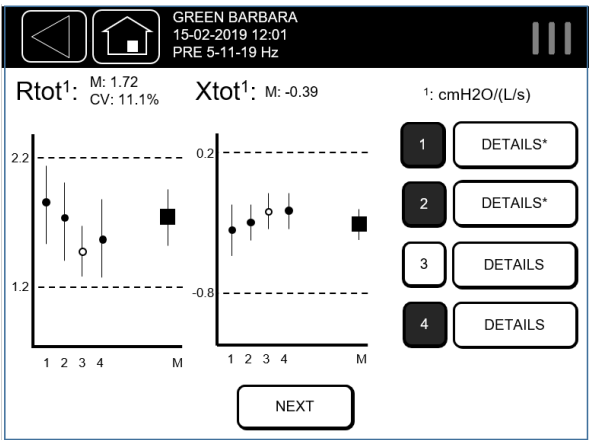
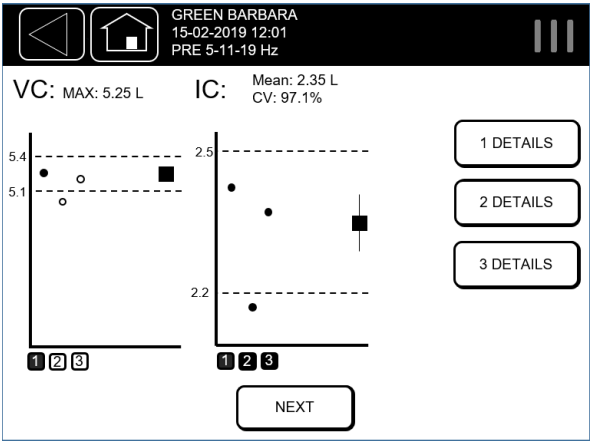
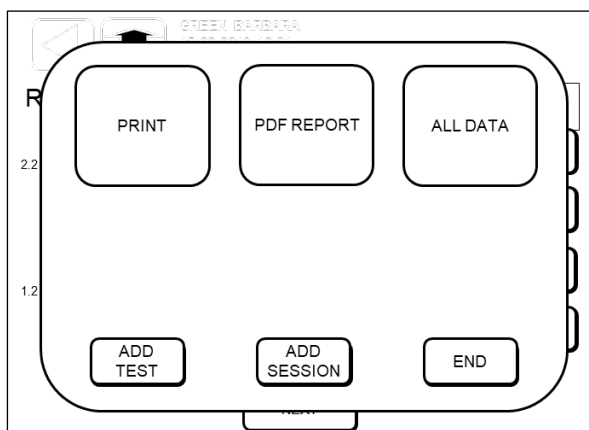

Figure 51 - FOT results for a test session
Figure 52 - Slow Spirometry results for a test session
Figure 53 - Print or export results
The results of a test session displayed on screen include both a summary of FOT parameters measured during the session (Figure 51) and one of the slow spirometry parameters, if measured (Figure 52).
The example of Figure 51 shows results of a FOT test session with four single tests. The top side of the screen reports the mean (M) value and the *inter-test* coefficient of variation (CV) of R_{tot} and the mean of X_{tot} calculated from the selected tests of the session. The mean values of R_{tot} and X_{tot} correspond to the full squares reported in the graphs in the lower part of the screen. The single tests selected for the computation of the mean and CV are displayed as full circles in the same graph, while their error bars represent their *within-test* standard deviation. Dotted lines in each graph represent the *inter-test* variability of the measurements and has been defined as the greatest between $0.5 \text{ cmH}_2\text{O} \cdot \text{s} \cdot \text{L}^{-1}$ and 15% of the mean R_{tot} (or X_{tot}).
If you want to review the results of a single test press the button DETAILS. For further information see section *Results of a single test*. Single tests that include both FOT and slow spirometry measurements are marked with an asterisk ‘*’ placed inside the DETAILS button (Figure 51).
The three most reproducible tests are automatically selected (i.e. highlighted in blue in the results screen of Figure 51).
The example of Figure 52 shows results of a slow spirometry test session with three slow spirometry maneuvers. The top side of the screen reports the selected value of Slow Vital Capacity (VC) and the mean (M) value and *inter-test* coefficient of variation (CV) of Inspiratory Capacity (IC), calculated from the selected tests of the session. The VC and the mean value of IC correspond to the full squares reported in the graphs in the lower part of the screen. The single tests selected for the computation of these values are displayed as full circles in the same graphs. Dotted lines in each graph are drawn at ± 0.15 L from the selected VC or from the mean IC or ± 0.10 L if the measured parameter is below 1 L..
By default, the highest measured VC volume is selected and highlighted among those performed in a test session (Figure 53). For the IC, the three most reproducible tests are automatically selected (i.e. highlighted in blue in the results screen of Figure 52). You can
- Select *SAVE* to save the test onto the internal memory of the device. If you decide to save the test, the next screen will allow you to print the report using the postscript USB printer connected to the device, export the report of the test in a PDF format, export the whole data (*ALL DATA*), *ADD* a new *TEST* to the existing test session (if there are less than five single tests within the open session) or *END* the measurements (Figure 53).